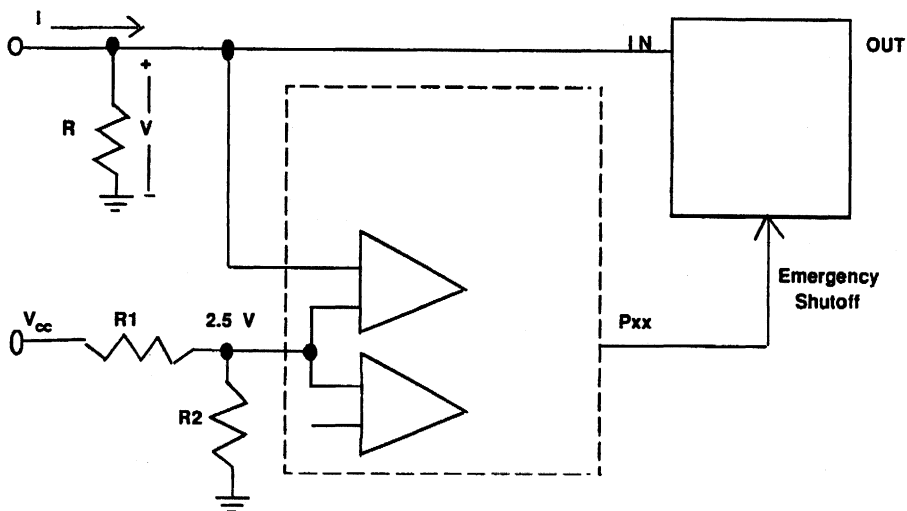

Figure 9a. Current Sensing
The dual comparator is used as a current sensing device in many application areas, e.g., in automotive relays, lights, monitors, etc. In the automotive arena, current sensing is used in a typical case as shown in Figure 9a. If the functional block shorts, then current (I) surges causing voltage (V) to fall. When V reaches 2.5V, the comparator triggers an interrupt which allows software to enable an emergency shut off.